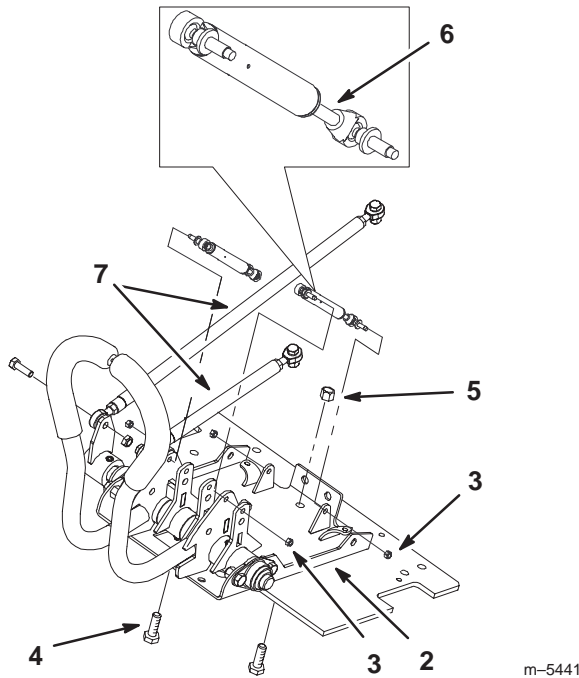

Figure 4
1. Install dampers, with rod end down, to the bracket (Fig. 4).
2. Secure dampers to bracket with 4 locknuts (Fig. 4). Torque locknuts to 21 ft-lbs.
3. Install bracket with new dampers to machine (Fig. 4).